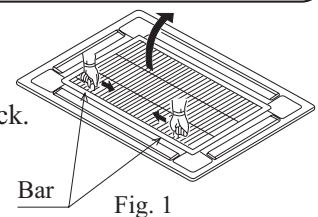

Fig. 1
(1) Remove air inlet grill from ornament panel *
- ① Push in the bar on inlet grill and lift it up. (Refer to Fig. 1)